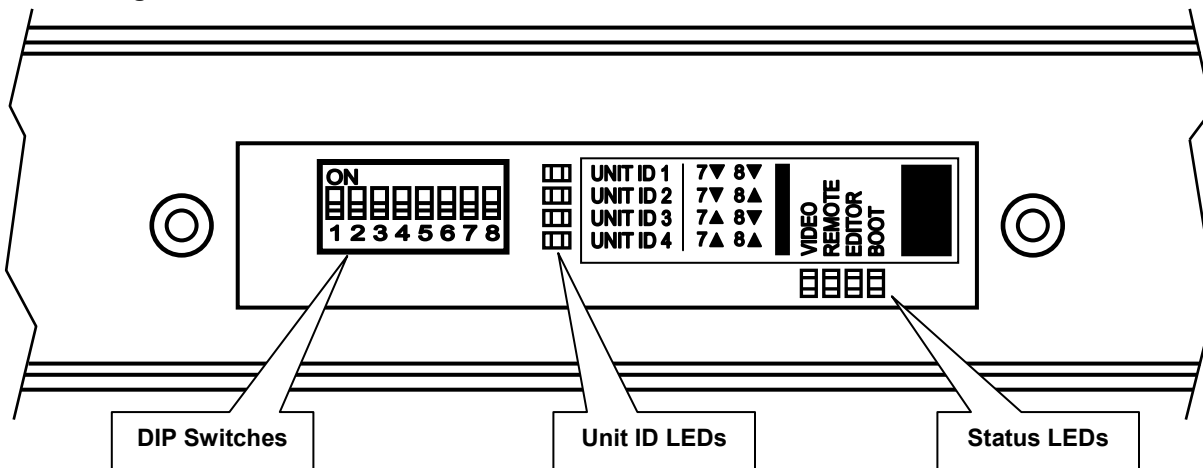

Figure 2.10.1. Main Unit Front View (Front Cover Removed)
The Smart Remote 2 is software configured to be the Master with up to four (4) Ultimatte-500 DLX / 500 units as slaves. Only the Master can initiate a message exchange. The Ultimatte-500 DLX / 500 is shipped with a factory default ID of number 1. When more than one unit needs to be connected, each should be assigned a different number (1, 2, 3 and 4) only. Each unit will respond only when it is addressed. The ID number is selected by setting Dip Switch 7 and 8 and indicated by LEDs. The front panel must be removed to access these switches (see Figure 2.10.1).
There are four Unit ID LEDs corresponding to the Main Unit ID number. The location of the LEDs is in the front of the Main Unit with the front cover removed (see Figure 2.10.1). The Main Unit ID number is configured by setting DIP Switches 7 and 8 (refer to Table 2.10.1)
There are four Status LEDs that provide status information. The location of the LEDs is in the front of the Main Unit with the front cover removed (see Figure 2.10.1).